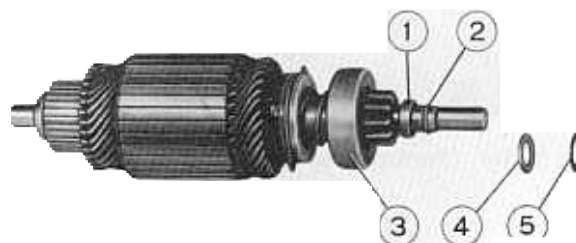

Fig. 14 4/3 - Disassembly of pinion.
- Use tool 88012350 to drive ring (1) down. Extract the circlip (2) and slide it off together with ring (1) and the pinion (3).
- Decrimp the cap (8) (see fig. 14 4/1). Use driving tool 88072008 and a press to drive the